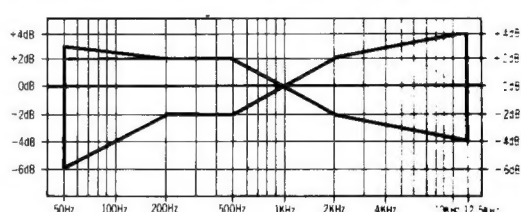

Fig. 14
8. Change test tape to CrO2 reference blank test tape (QZZCRX), and record 1kHz, 50Hz, 100Hz, 200Hz, 500Hz, 4kHz, 8kHz, 10kHz and 12.5kHz signals. Then, playback the signals and check if the curve is within the limits shown in the overall frequency response chart for CrO2 tapes (fig. 14).
9. Place UNIT into metal tape mode and change test tape to metal reference blank test tape (QZZCRZ), and record 1kHz, 50Hz, 100Hz, 200Hz, 500Hz, 4kHz, 8kHz, 10kHz and 12.5kHz signals. Then, playback the signals and check if the curve is within the limits shown in the overall frequency response chart for metal tapes (fig. 14).